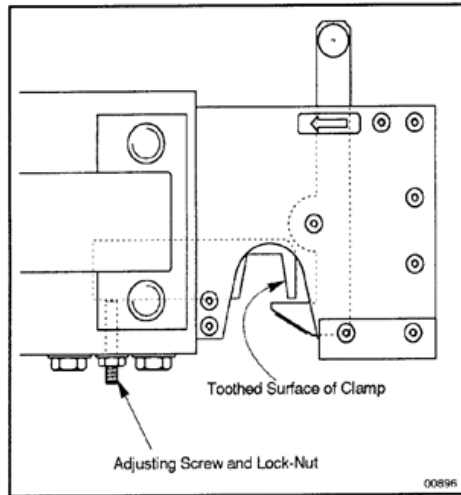

Figure 4-4 Top View, Docking Clamp and Post
8. Lock the TEF Modular Component onto the system by pushing against the unit until the clamping clamp is fully engaged with the docking post. The teeth on the clamping clamp must be fully engaged with docking post. If they are not, use a wrench to loosen the lock-nut and tighten the adjusting screw until the teeth on the clamp engage the docking post. (See Figure 4-4.)